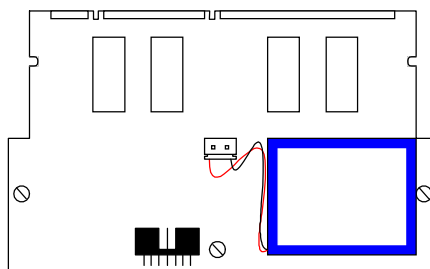

Figure 3-2
2. Insert the battery plug in the socket. Arrange the lead wires of the battery along the side of the battery. (See Figure 3-2)